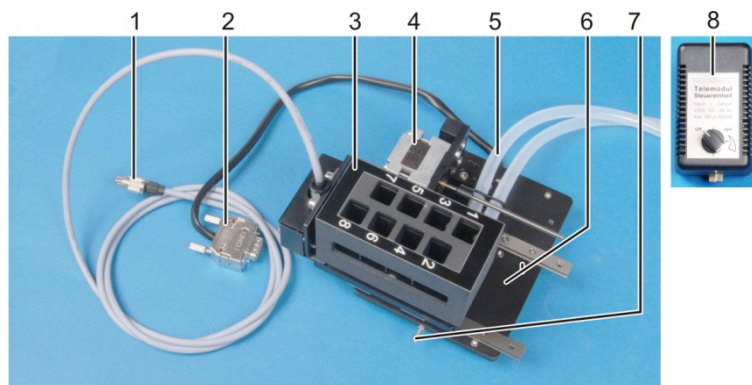

Fig. 35 Layout of the 8-cell changer
2. Using the guide rail (5 in Fig. 34) (included), align both cell changers with respect to each other so that they have the same distance from the front sample chamber. Correct the adjustment of the stop bolts (7 in Fig. 35 p. 41), if required.